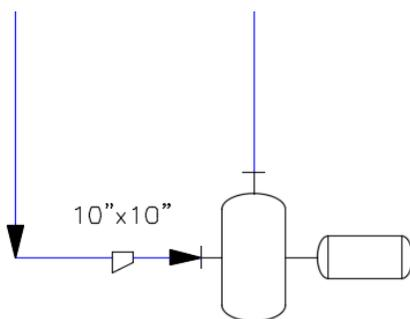

Figure 2-71 An eccentric reducer placed on the line connecting the first pump
1. Choose **Eccentric Reducer** from the **Piping Fittings** area in the **Fittings** tab of the **TOOL PALETTES - P&ID PIP** and place it on the line connecting the horizontal nozzle of the pump, as shown in Figure 2-71.